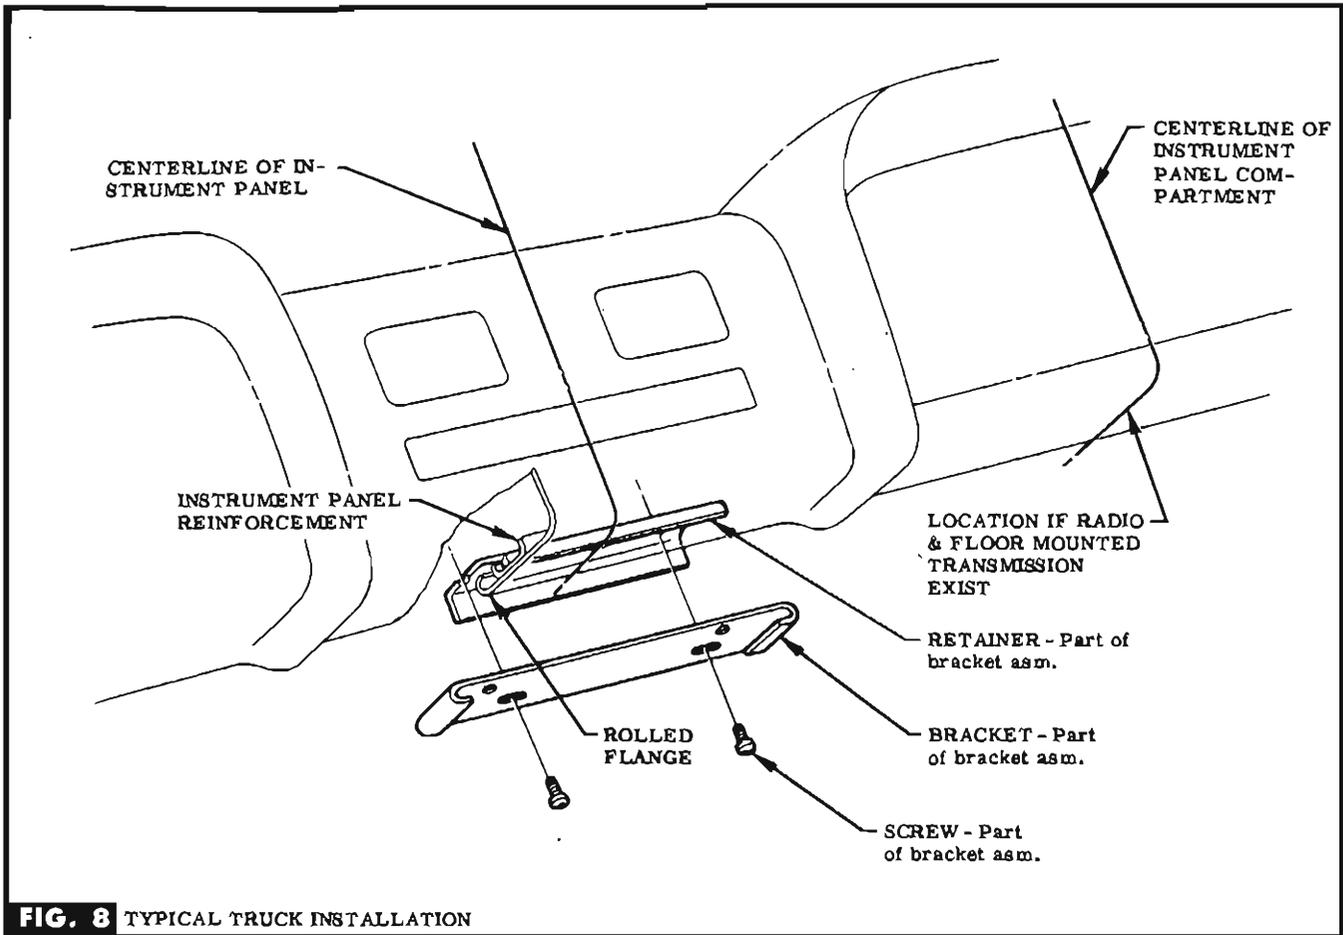

FIG. 8 TYPICAL TRUCK INSTALLATION
STEP 13 LOCATE BRACKET ASM. AT CENTERLINE OF INSTRUMENT PANEL & TIGHTEN ATTACHING SCREWS. SEE FIG. 8.
STEP 15 LOCATE CENTERLINE OF INSTRUMENT PANEL COMPARTMENT (SEE FIG.8.) & INSTALL BRACKET ASSEMBLY IN SAME MANNER AS TRUCKS WITHOUT RADIO OR FLOOR MOUNTED TRANSMISSION. SEE FIG. 8.